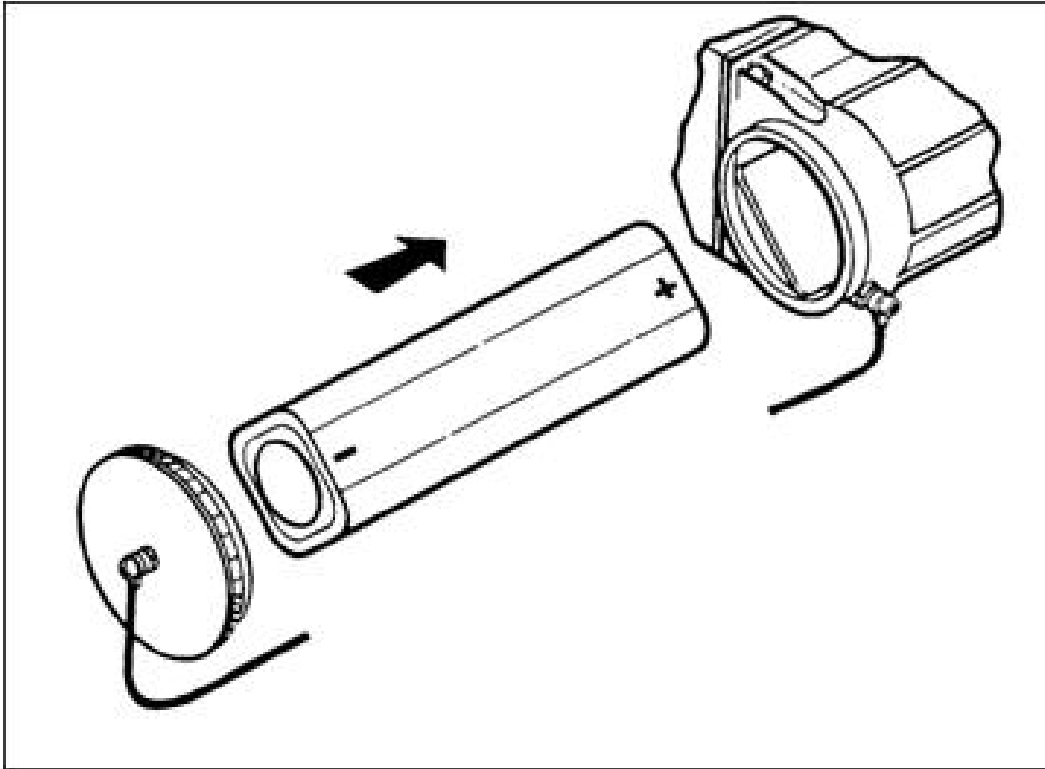

Figure 2. Battery replacement.
c. Insert the battery with the small raised contact first (Figure 2).